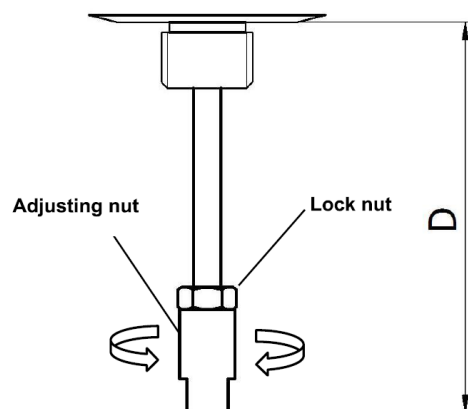

Figure 31. Displacement sensor adjustment and measurement
7. Separately measure the C1 value when the valve is fully closed and C2 value when the valve is fully open with a depth gage. The values are the distance between the end of the stem and the machined face on the top of the actuator, as shown in Figure 31.
8. Adjust the adjusting nut of the displacement sensor. Then measure the D value, as shown in Figure 31, with a depth gage when the displacement sensor is completely loosened. Calculate the compression value $L1 = D - C1$, $L2 = D - C2$. It is recommended that the compression values L1 and L2 are both in the reference range shown in Table 10. If the L1 value or L2 value does not fall within the reference range, adjust the D value according to the actual situation.